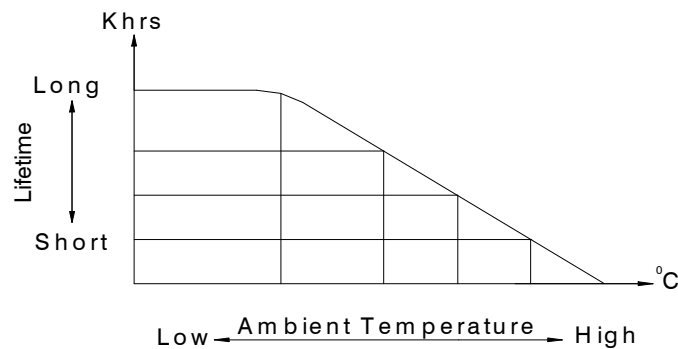

Figure 6.2: Lifetime of the power supply versus ambient temperature
- (1) High frequency and high efficiency switching technology, improvement of components, and integration with up to date technology can reduce the size of the S.P.S. But, components must also populate the PCB at higher density. The lifetime of components on a S.P.S. will vary significantly due to differences in ambient temperature. When an electrolytic capacitor is used for filtering, its internal chemical reaction will raise the surface temperature. Lifetime of the electrolytic capacitors is sensitive to ambient temperature.
- (2) In general, the lifetime of the electrolytic capacitors will be reduced by half for every 10°C increase in the ambient temperature. On the contrary, when temperature goes down 10°C, it's life time will be doubled. Figure 6.2 describes the relationship between lifetime of the power supply and ambient temperature. If the S.P.S. is continuously operated in high temperature environment, the electrolytic capacitors will enter the "fatigue failure period" earlier while in the mean time the other components are still at the "random failure period". To extend the lifetime of this S.P.S., we need to replace all the electrolytic capacitors.